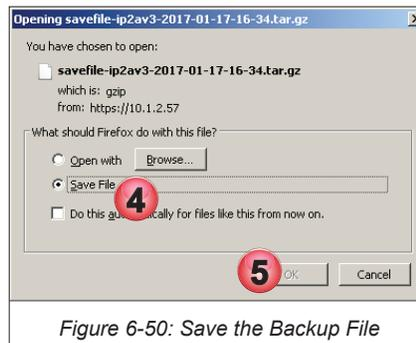

Figure 6-48: Click Import/Export Link
1. Click the **System** tab if it is not already selected, Figure 6-48.